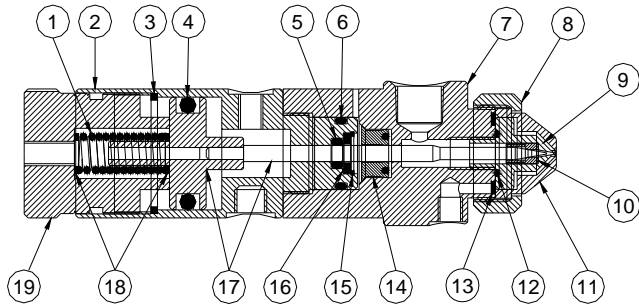

Figure 3.0
7.1 Thorough Cleaning (See Figure 3.0)
7.2 Needle/Piston Assembly and Seal Replacement (See Figure 3.0)
7.3 Nozzle and Air Cap Replacement (See Figure 3.0)